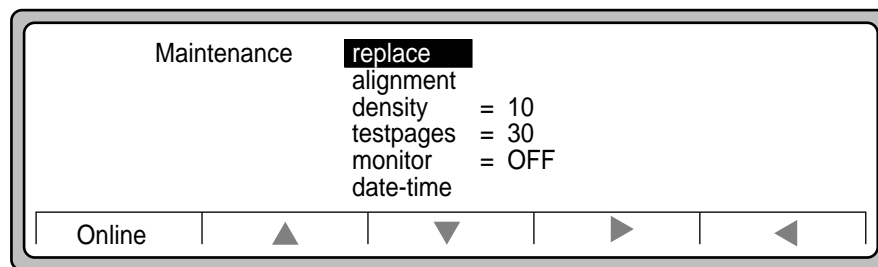

Figure 4-10 Maintenance selections
3. Use ► to display Maintenance selections as shown in Figure 4-10.